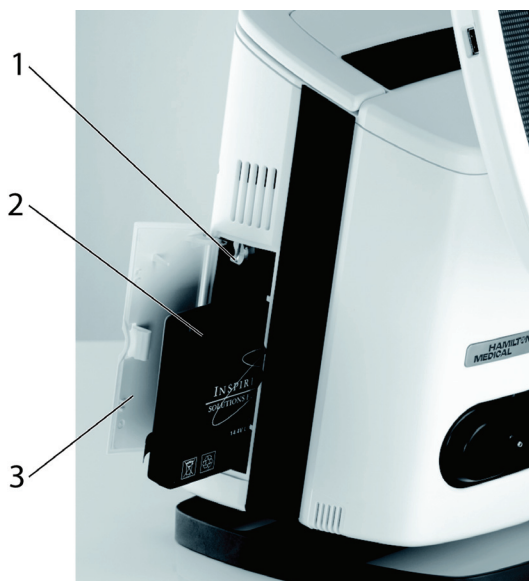

Figure 10-3. Removing battery 2
Open the battery door (1). To remove battery 1 (2), turn the retaining screw until the battery is released. To remove battery 2 (3), press on the tab, and slide the battery out of its housing. Replace with a newly charged battery (Figure 10-3).